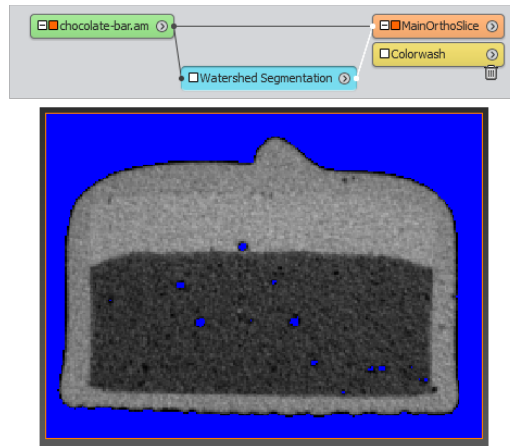

Figure 4.77: The *Watershed Segmentation* wizard at step 4.
- You can use 0-435 as range (see Figure 4.77).